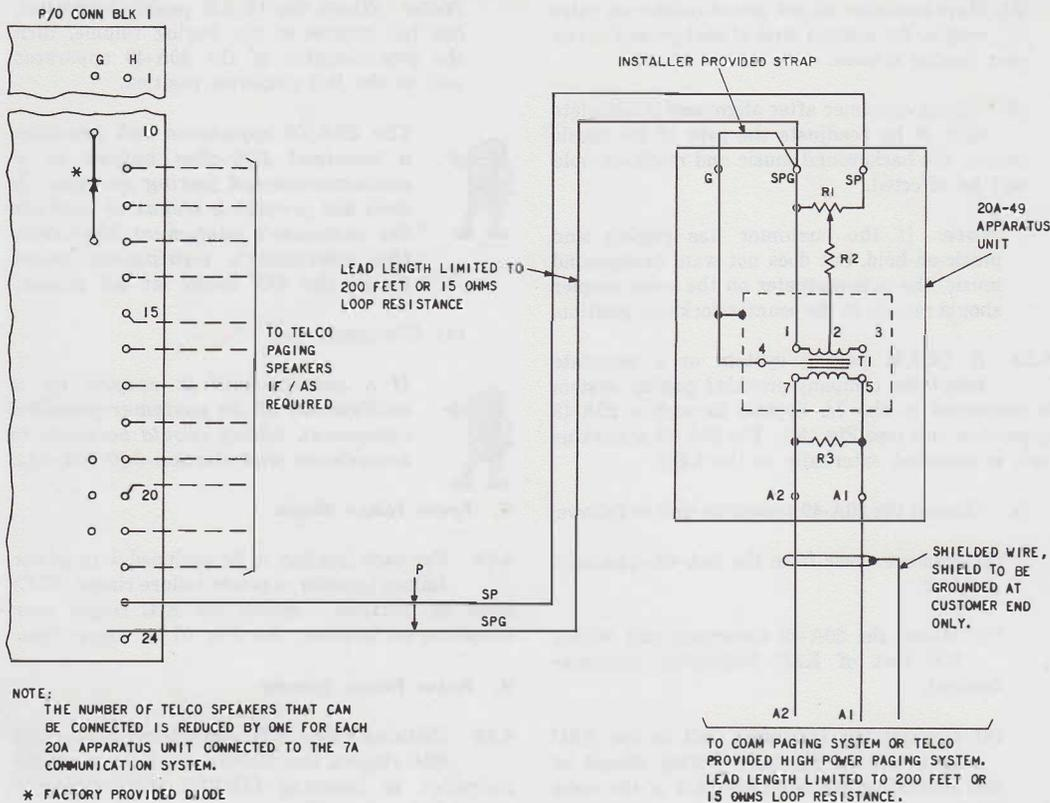

Fig. 44—20A-49 Apparatus Unit, Connections
4.53 A COAM paging system or a separate telephone company-provided paging system is connected to the 7A System through a 20A-49 apparatus unit (see Fig. 44). The 20A-49 apparatus unit is mounted externally to the KSU.
- (1) Remove cover from the 20A-49 apparatus unit.
- (2) Mount the 20A-49 apparatus unit within 200 feet of KSU (wherever customer desires).
- (3) Connect the apparatus unit to the KSU as shown in Fig. 44. Wiring should be run separately and not be a part of the voice cable.
- (4) Have customer connect his paging system to the apparatus unit, using shielded wire, as shown in Fig. 44.
- (5) Replace cover on apparatus unit.